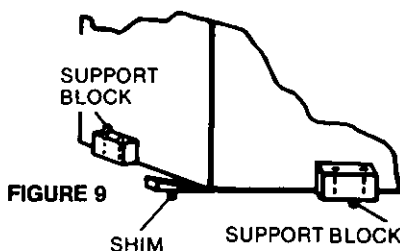

FIGURE 9
STEP 2 Level fireplace, side to side and front to back, using shims. Figure 9.
STEP 4 Nail down support blocks (not provided) at side and back to anchor fireplace in position. Figure 9.